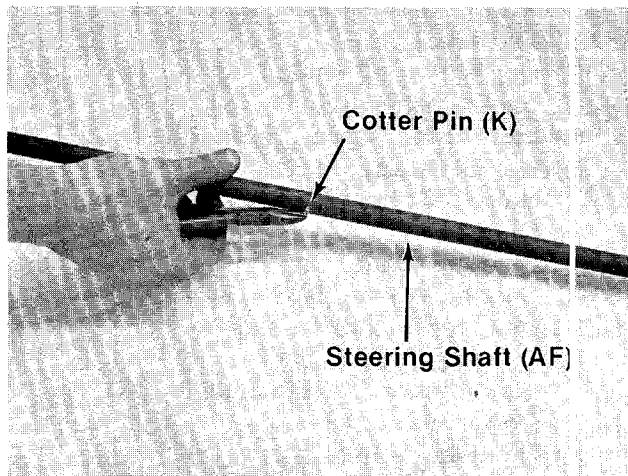

FIGURE 4.—Style A Only
1. **Style A only**—Insert the **cotter pin (K)** into the hole on **steering shaft (AF)**. Secure in place by bending the ends of the cotter pin in opposite directions. See figure 4.